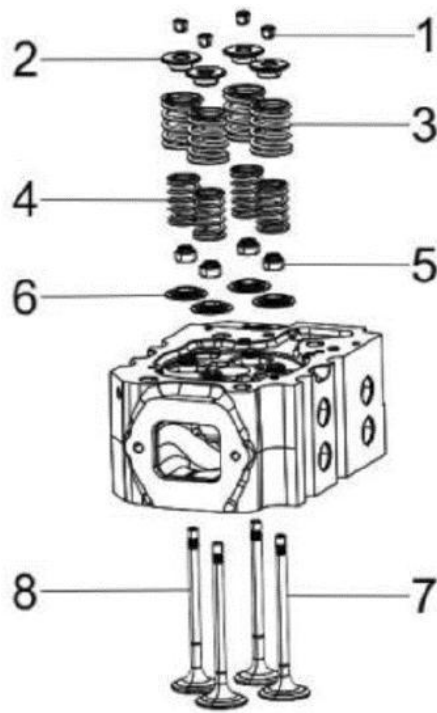

Figure 48. Cylinder Head Assembly
9. Remove the valve keeper (Figure 48, Item 1).
11. Remove the spring top retainer (Figure 48, Item 2) and outer/inner valve spring (Figure 48, Items 3 & 4).
13. Turn the cylinder head so the exhaust port side faces down. Remove the intake and exhaust valves (Figure 48, Items 7 & 8) from the cylinder head.
14. Remove the valve stem seals (Figure 48, Item 5).
15. Remove the spring bottom retainer (Figure 48, Item 6).